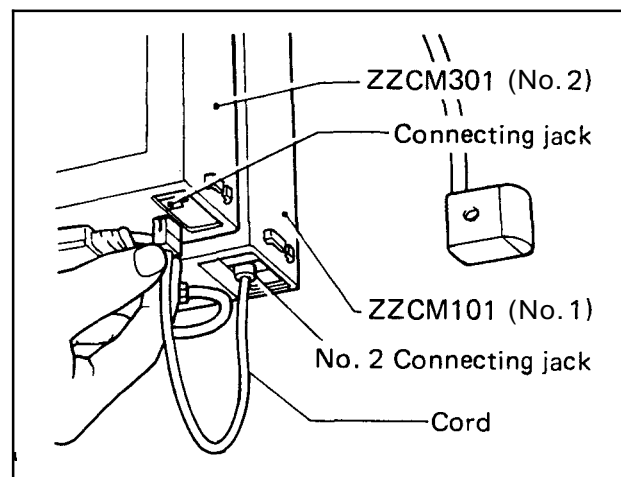
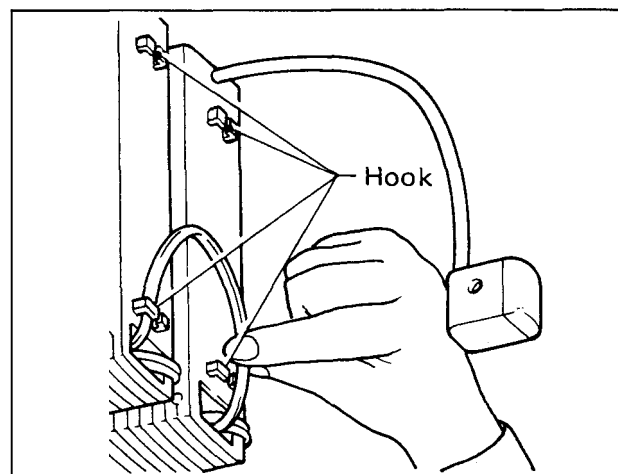

Fig. 31
Fig. 32
3. Connect provided modular connecting wire from port labeled number "2" on the "parent" motor to the "kid" motor. (Fig. 31) Route wire through the retention clips on the side of the motor. (Fig. 32) This will give a more finished look and prevent the wire from interfering with the draperies.